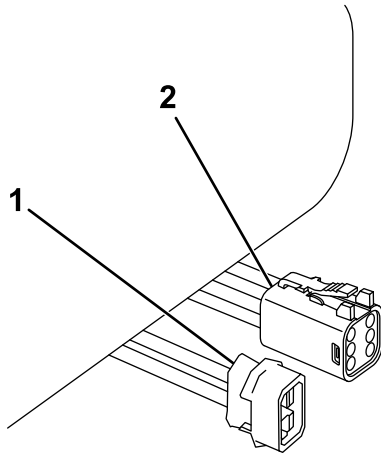

Figure 19
- Mount the plow connector and the black and red power/ground connector to the lower part of the rear bumper using a cable tie (Figure 19).